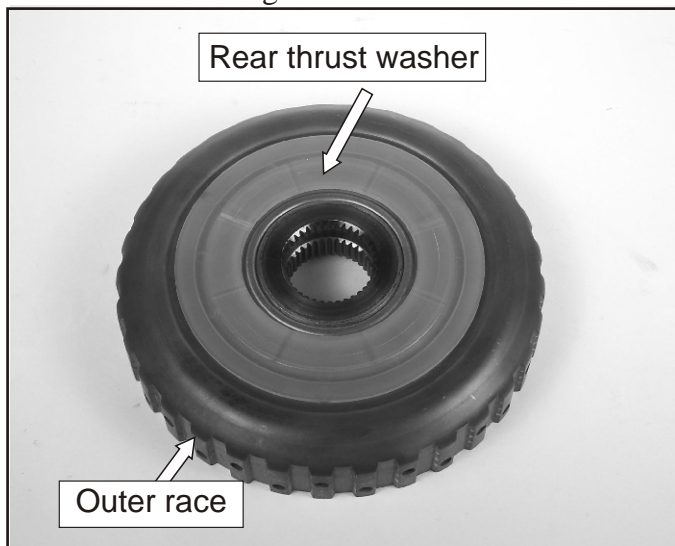

Figure 136
83. Turn the complete assembly over and assemble the rear thrust washer into the outer race shown in Figure 136.